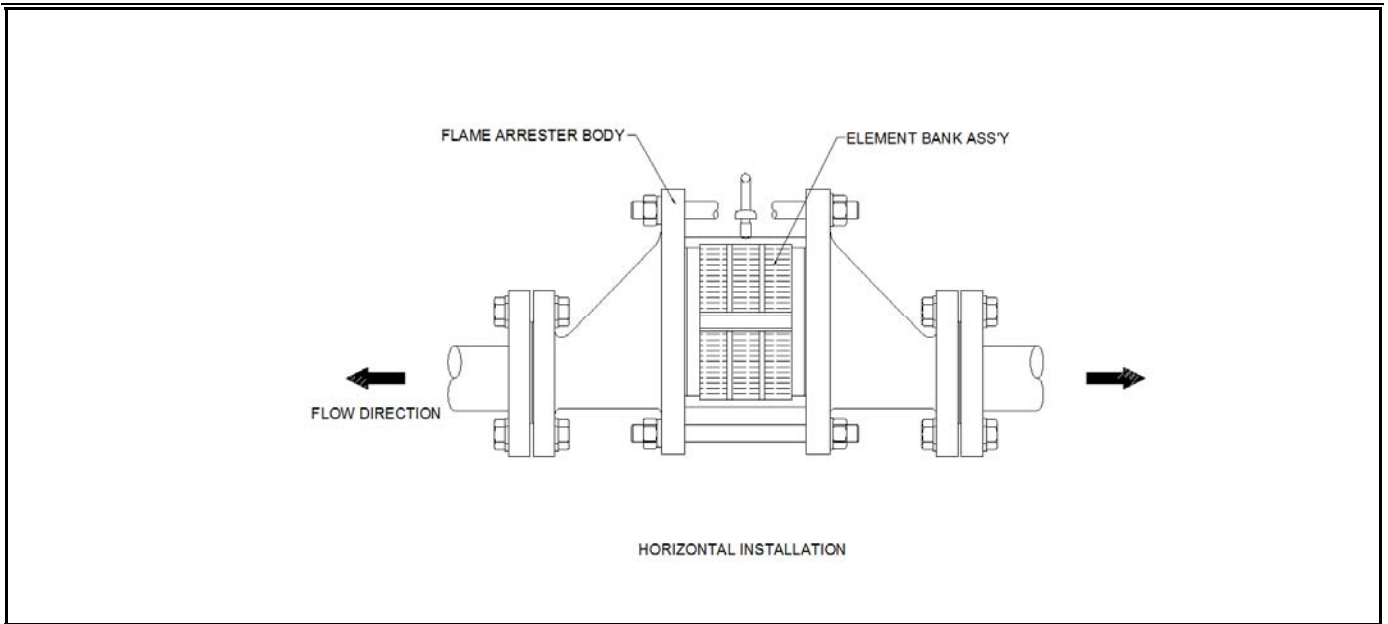

Figure 4 (KSFLD TYPE)
4.3 The Procedure Disassembly and Assembly (Figure 4)